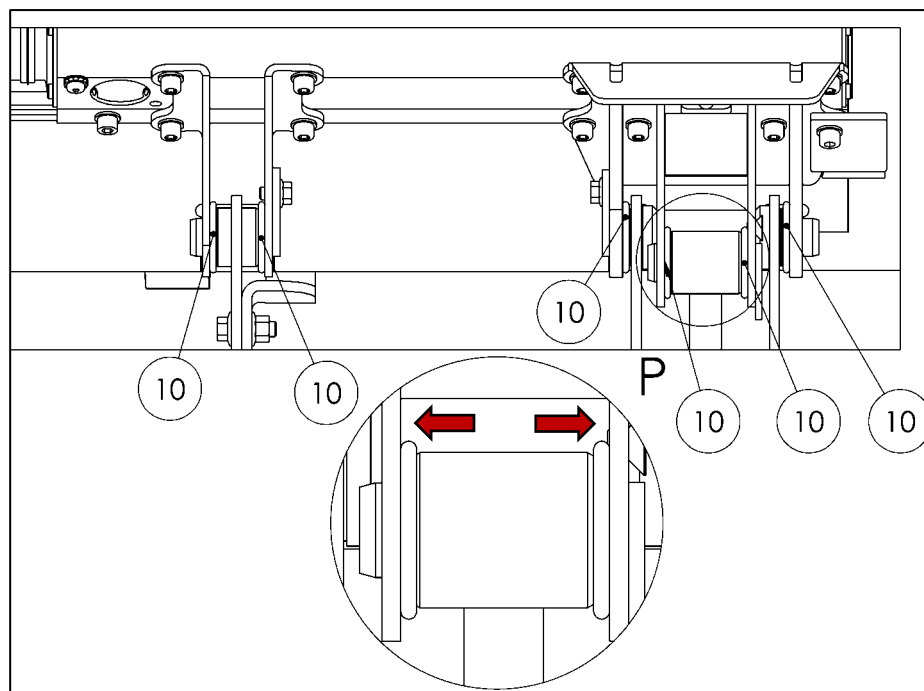

Fig. 58
- Move the 6 pre-fitted O-rings (accessories kit parts list – Item No. 10) into their correct positions (see Fig. 58).